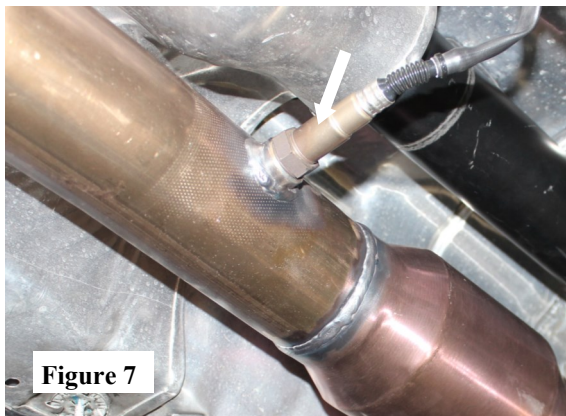

Figure 7
3. Place a **Accuseal Clamp** over the **Muffler Assembly** and insert inlet into the **Downpipe Assembly**. Connect the hangars into the OE rubber hangar. Install O2 sensors to **Downpipe Assembly**. (See Figs. 7 & 8)